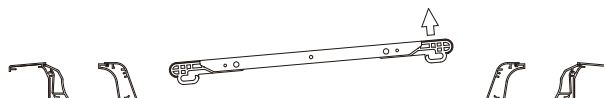

Figure 3.13
- (2) Take and press down one side of the suspension buckle as shown in Figure 3.13.